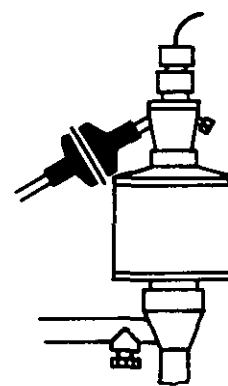

Fig. 11 Microbe filter in inspiration section
Microbe filter (Fig. 11)
5.9 Microbe filter (Fig. 11)